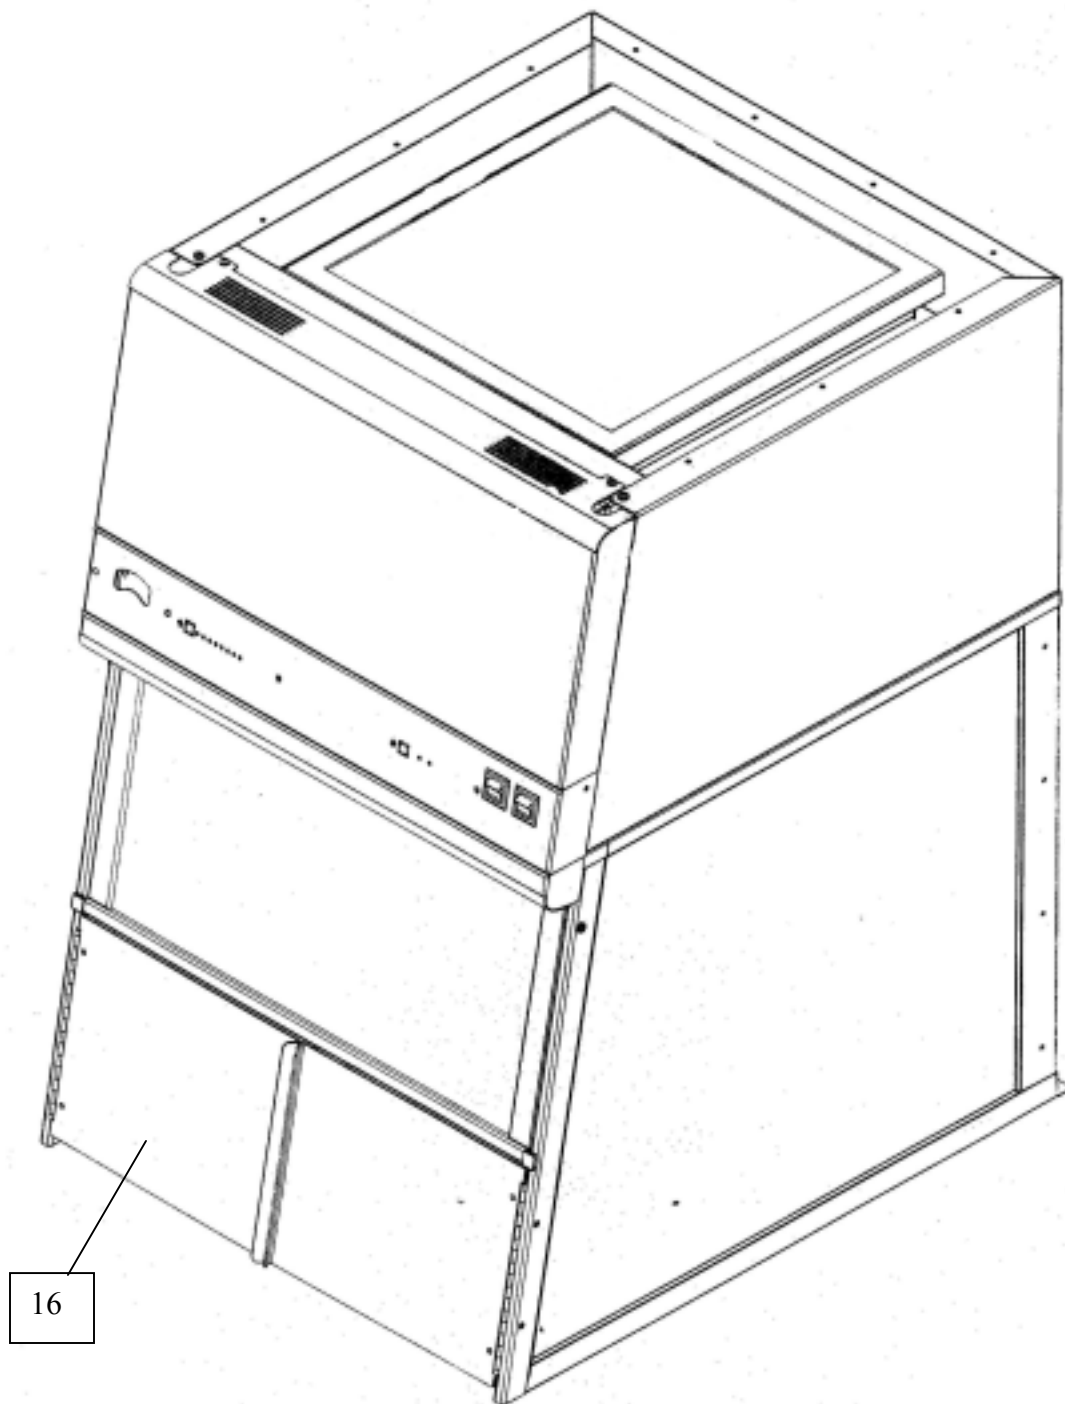

Figure 4-3
16. **UV Sash Closure** provides added safety to prevent access inside the enclosure. See Figure 4-3.